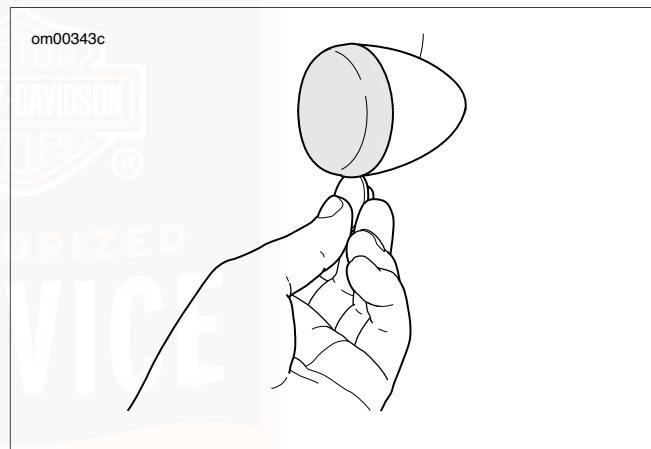

Figure 65. Remove Lens
1. See Figure 65. Insert a coin or the blade of a small screwdriver into the notch at the bottom of the lens cap. Carefully twist until the lens cap pops out of the lamp housing.